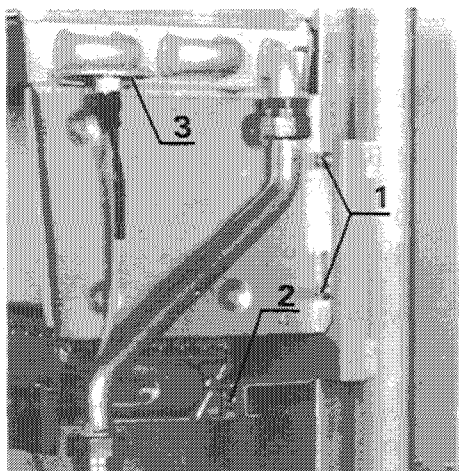

Fig. 28
- a) Remove two screws (3, fig. 28) retaining over heat thermostat to right hand side of heat exchanger matrix.
- e) Remove 4 screws (1, fig. 28) retaining combustion chamber sides to chassis.
- l) Remove two screws (3, fig. 28) retaining safety over heat thermostat to right hand side of heat exchanger matrix.